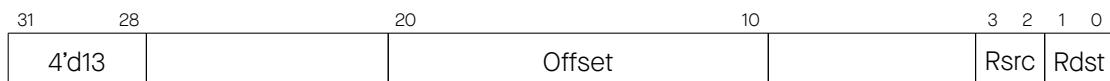

Figure 30-7. Instruction Type – LD
**Operand Description** - see Figure 30-7